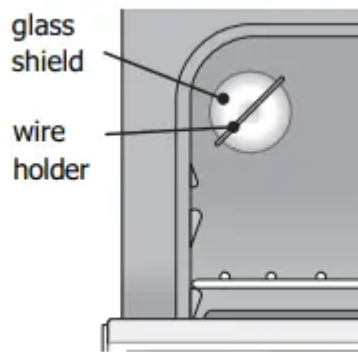

Figure 20: Oven light protected by glass shield
1. Open oven door completely, horizontal with floor (See Figure 20).
The interior oven light is located at the rear of the oven cavity and covered with a glass shield. The glass shield must be in place whenever the oven is in use (Figure 20).